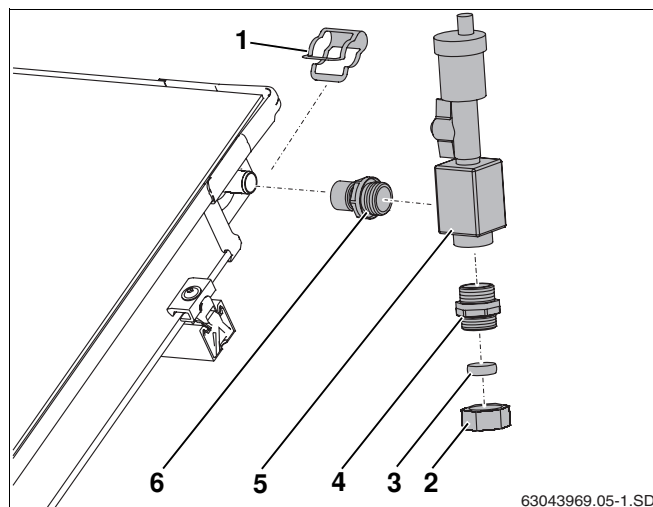

Fig. 60 Connecting the air vent
- Firmly screw threaded fitting (Fig. 60, **Item 6**) and double threaded fitting (Fig. 60, **Item 4**) into air pot (O-ring gasket).
- Push air pot (Fig. 60, **Item 5**) and fitting onto collector connection and secure with clip.
- Connect header pipe to the compression fitting (15 mm) (Fig. 60, **Item 2**).